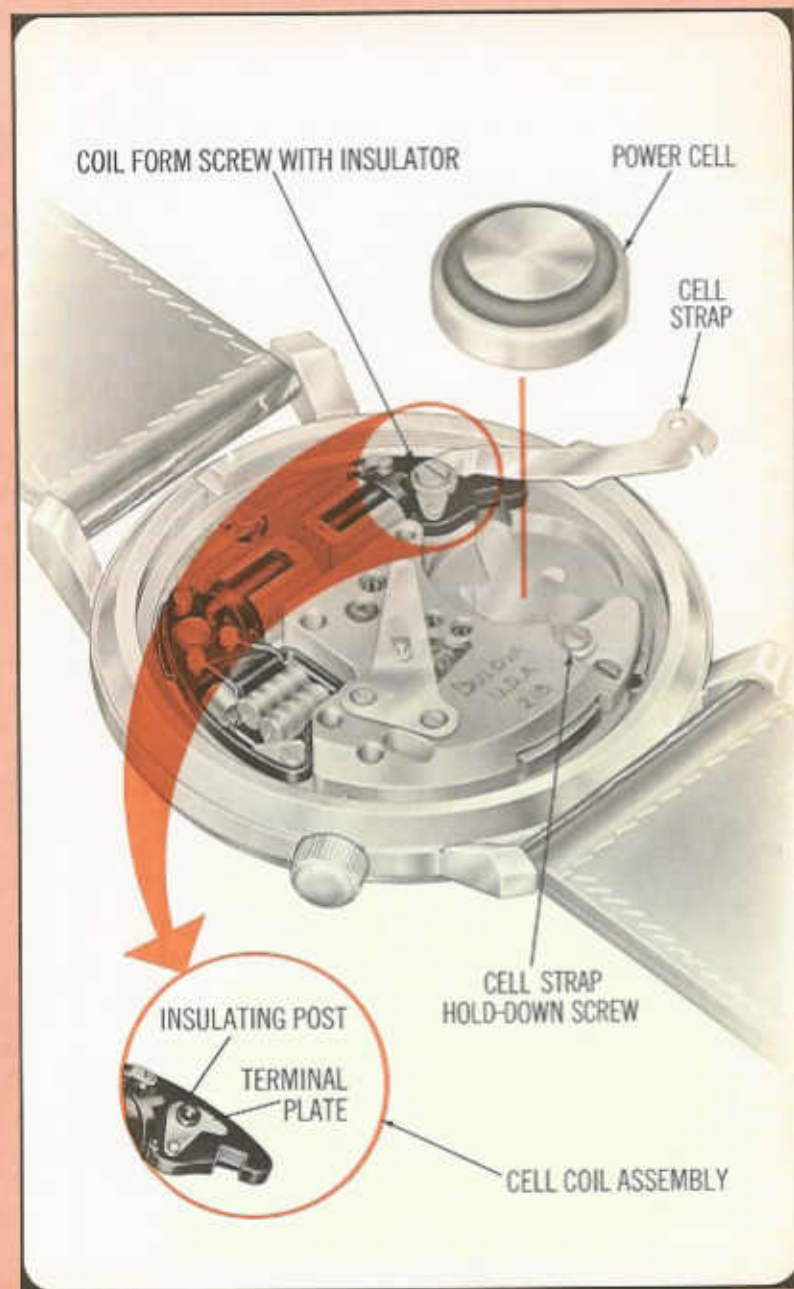

Fig. 3
- c. Loosen cell strap hold-down screw, swing cell strap out and remove Power Cell as shown [see Fig. 3].
- f. Install the Power Cell with imprinted side down (see Fig. 3); reposition cell strap under the hold-down screw and secure screws.